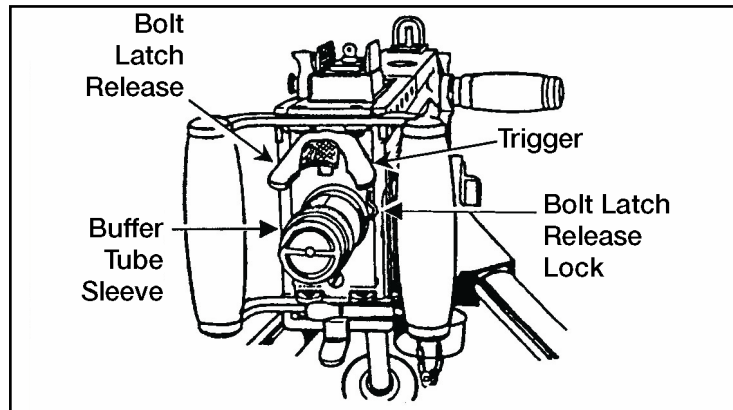

Figure 071-022-0001-3. Release the bolt latch
- (2) Pull the backplate latch lock straight back while lifting up on the backplate latch (figure 071-022-0001-4).